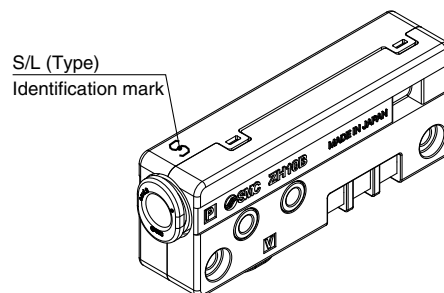

Fig. 12
2. For the box type, a different identification mark is used according to the vacuum pressure reached (type S or type L). (Fig. 12)